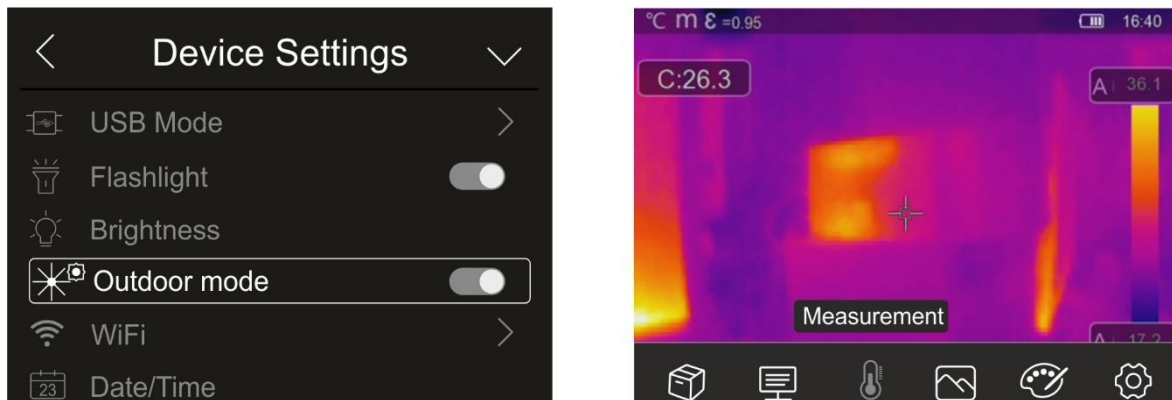

Fig. 16: Activation of the outdoor mode
1. Touch the "Outdoor mode" to activate/deactivate the inverted colors of the icons in the lower bar of the display to improve visibility in the outdoor environment. The following screen of Fig. 16 – right side appears on the display